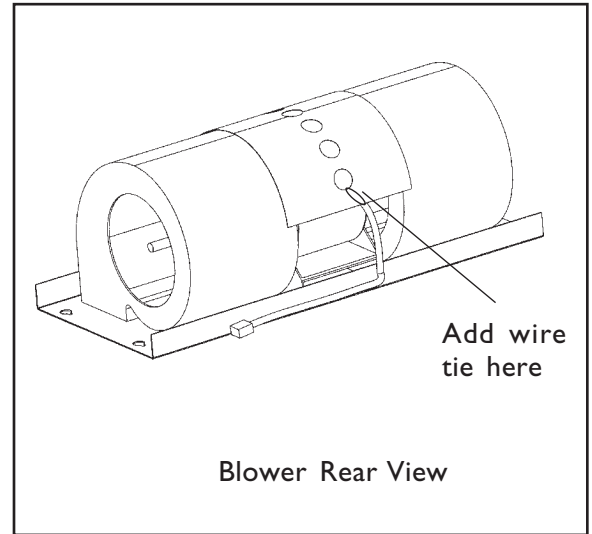
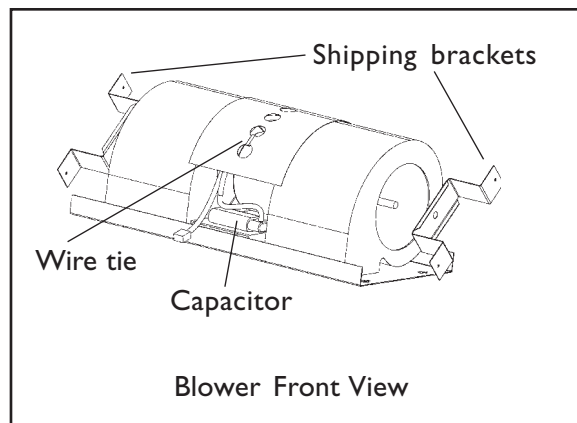

Figure 12b PHE & PH_Z
Figure 12a PHE & PH_Z
1. Remove left and right shipping brackets and discard. See Figure 12a.
2. Cut wire tie shown in Figure 12a. Take wire harness with Molex 6-pin connector and route out rear of blower, as shown in Figure 12b at right.
4. Attach wire harness with Molex 6-pin connector to housing as shown in Figure 12b with wire tie (supplied).